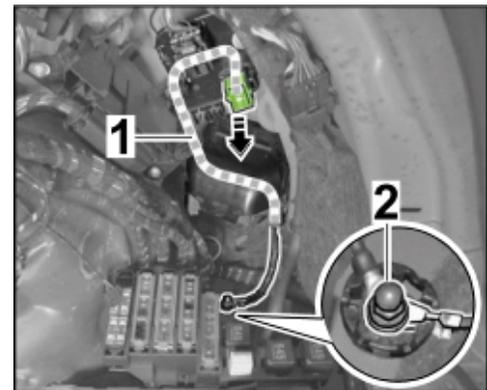

Figure 4
2.1.4 Install green pin connector socket (ground line) into the holder from the rear (⇒ *Figure 4 -Arrow-*).
2.1.5 Route ground line to ground pin 42 (rear, right) (⇒ *Figure 4*).
2.1.6 Install cable ring eyelets onto ground pin 42 and fasten loosely with cap nut (⇒ *Figure 4 -2-*).
Wire harness for trailer hitch preparation is secured to the main wire harness in the luggage compartment at the right ⇒ Figure 4 -3-.